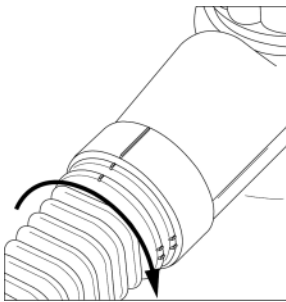

FIGURE 3
2. Rotate Steam Jet Nozzle in a clockwise direction as indicated below (FIGURE 3). Twist until you feel it “lock” into place and it will move no further. Note that single guide line on top of main unit aligns between dual guide lines on Steam Jet Nozzle (FIGURE 4).